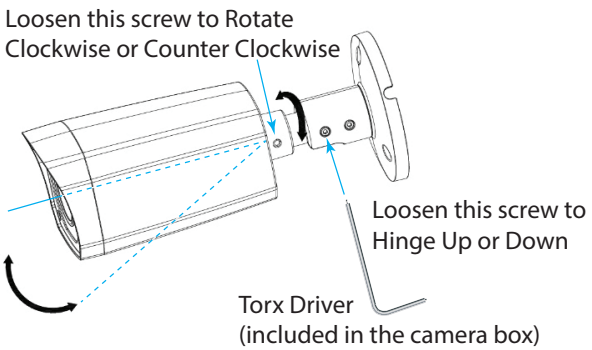

Fig. 2.6
11. Adjust the camera until the correct position is established (pointing at the ROI). You can pivot the mounted bracket around the one screw holding it. The set screws on the camera neck also allow it to be adjusted up, down, or rotated, see Fig. 2.6.